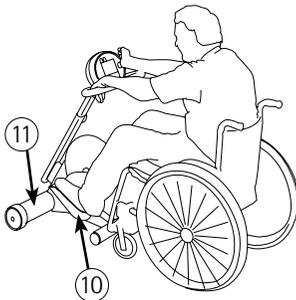

fig. 19
Press the long button (7) »insertion aid« (👉7) when the MOTOmed is in stand-by mode (black screen and constant green light). By »pushing and holding« the buttons (6) »pedals forward« or (5) »pedals backward« you can move the foot shells (10) (fig. 19) to the lower position for convenient leg insertion, one after the other. Now fasten your feet and legs with the Velcro straps or the *self-operating foot holders* (item no. 506 or 598).